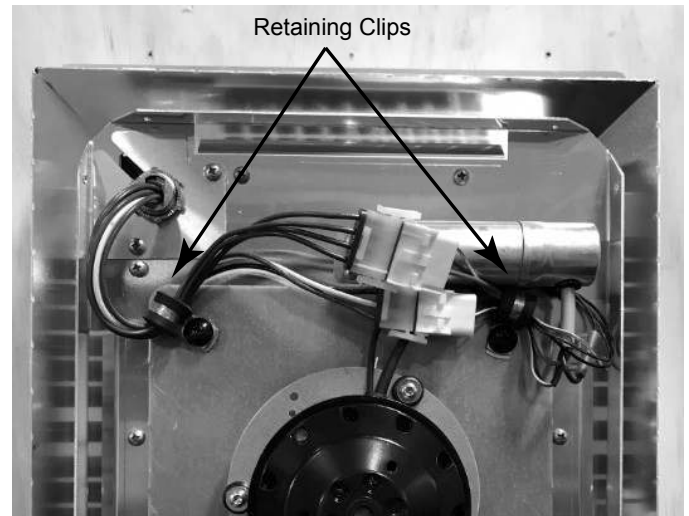

Figure 7.20
- Secure wire harness and motor wires with retaining clips (2) as shown. See Figure 7.20.